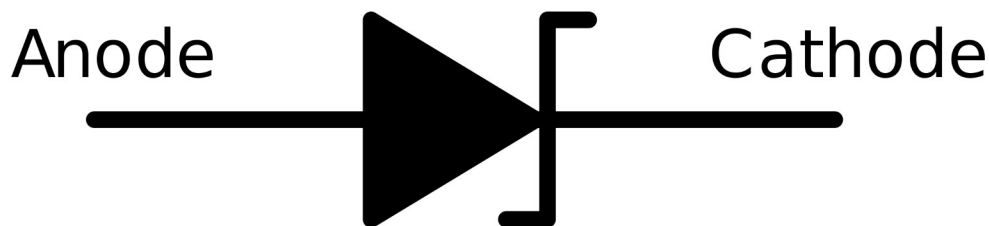

Figure 24: Zener Diode
- ii. Show the symbol of the Zener diode in Figure 24.